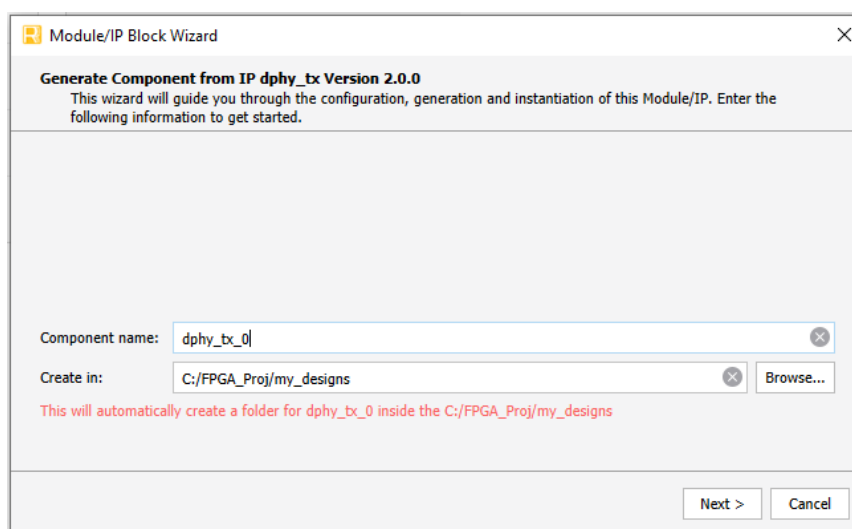

Figure 6.1. Module/IP Block Wizard
2. In the **IP Catalog** tab, double-click **CSI-2/DSI D-PHY Transmitter** under **IP, Audio_Video_and_Image_Processing** category. The **Module/IP Block Wizard** opens as shown in Figure 6.1. Enter values in the **Component name** and the **Create in** fields and click **Next**.
- Click **Finish**. All the generated files are placed under the directory paths in the **Create in** and the **Component name** fields shown in Figure 6.1.